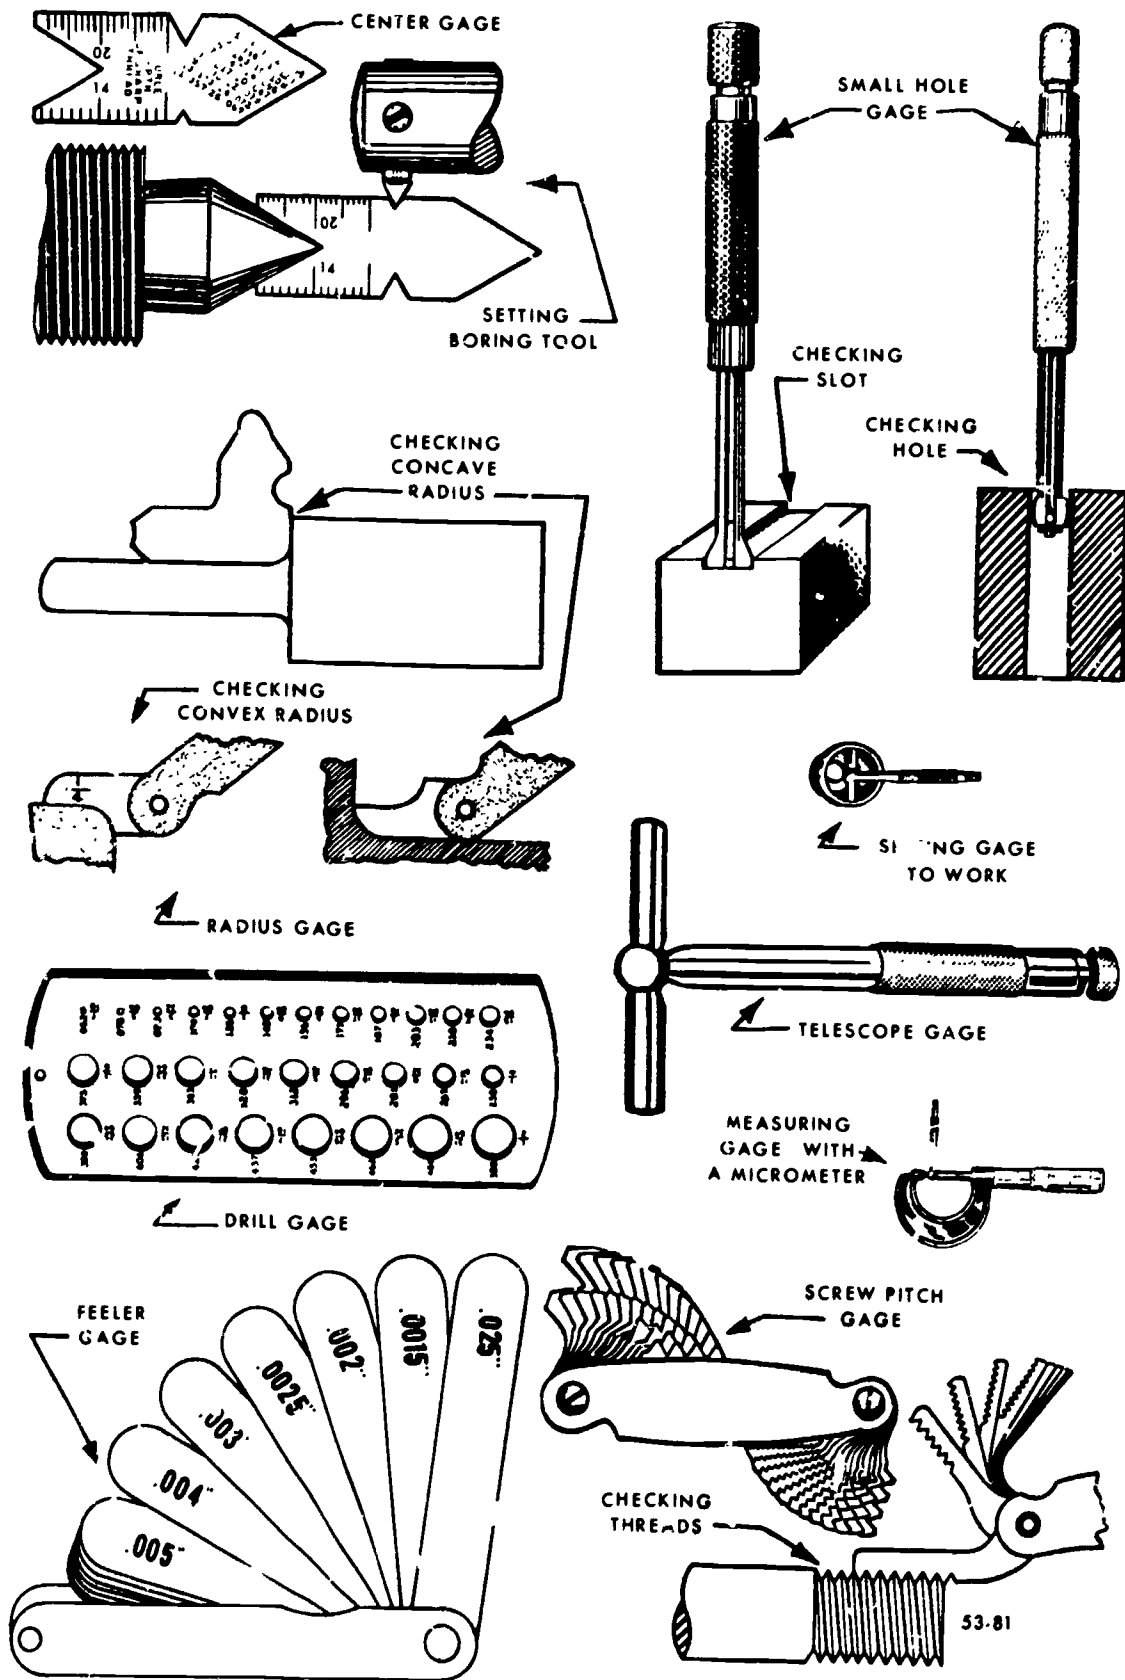

Figure 5-15. Various gages and their uses.
**Telescope Gage.** The telescope gage is pictured in figure 5-15, along with several other gages that you may use as a machinist. This telescoping gage can be used in places in which a micrometer or a vernier caliper would be awkward to handle. With it, you can quickly and accurately obtain the inside measurements of slots or holes. This T-shaped tool consists of an adjusting handle, a mounting head, and two plungers, one telescoping into the other, which can be locked by turning a knurled screw. Although the gage is not calibrated, you can easily read the measurement obtained by checking the telescope gage with a micrometer or a vernier caliper.
**Small Hole Gage.** When the telescope gage is too large, you can use a small hole gage to measure small holes or slots. Like the telescoping gage, the small hole gage, also shown in figure 5-15, is used with the micrometer or vernier caliper. When you check the measurement of a small hole gage, be sure to hold it perpendicular to the axis of the micrometer spindle or handle of the vernier caliper. You should also rotate it slightly from side to side as you bring the micrometer or caliper into contact with it. In this way you can be sure that you are measuring the largest diameter on the gage. Since the measuring surface of the gage is not a true circle, a slight misalignment in the micrometer or caliper will cause the reading to be erroneous.